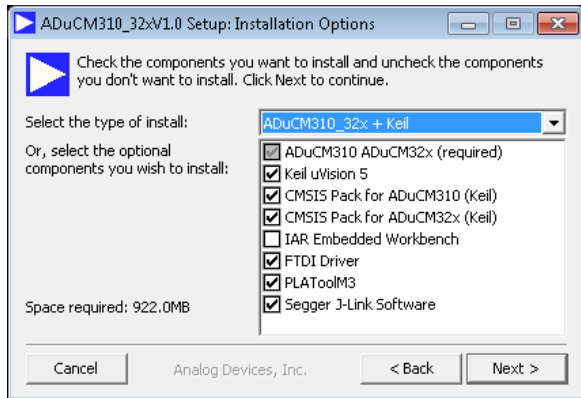
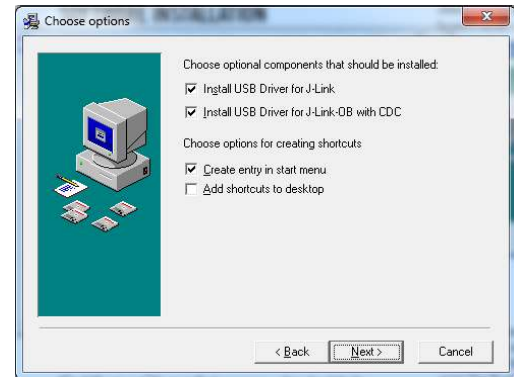

Figure 2. Installation Options
Figure 3. Installing Link Software
3. Double-click **ADuCM310_32x.exe** and follow the on-screen instructions. A menu displays installation options as shown in Figure 2.
The J-Link software is selected by default in the installation menu shown in Figure 2. It is advised to leave it selected. The J-Link software automatically installs the J-Link serial port driver. Select **Install USB Driver for J-Link-OB with CDC** as shown in Figure 3. If that step is missed, run **JLinkCDCInstaller_V1.2b.exe** located in the **ADuCM322\Segger** folder.